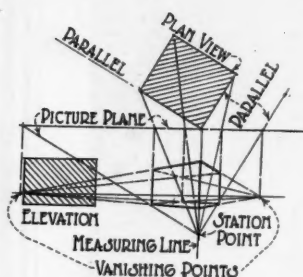

FIG. 1
**ANSWER:** Referring to Fig. 1. Place the plan of the house at any angle with the horizontal picture-plane line and with the corner of the plan on the line. Lay off the distance to